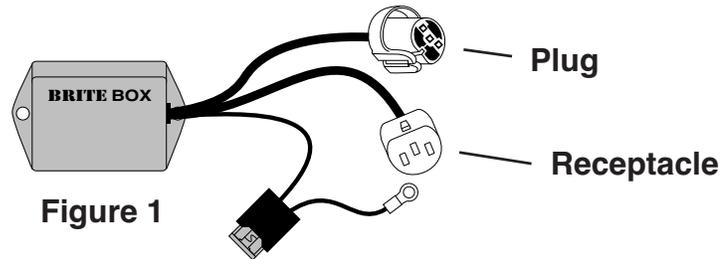

Figure 1
**STEP 3:** Find a location to mount Brite Box. Make sure car's headlight plug can reach the receptacle (see figure 1) of Brite Box, and that Brite Box's plug (see figure 1) can reach headlight bulb. The red wire (attached to fuse holder) of Brite Box must also be able to reach positive (+) battery cable.
**STEP 4:** On the side of the vehicle where you are installing BRITE Box, use a medium screwdriver to gently remove the car's headlight plug from the headlight bulb. **DO NOT** remove bulb from headlamp assembly by turning round lock ring. Use caution so you do not break the retainers on the stock headlight plug. Take the just removed stock plug and fully insert it into Brite Box's receptacle (see figure 1).
**STEP 5:** Plug the headlight plug (see figure 1) from Brite Box into your headlight bulb. Make sure plug is fully seated.
**TECH AND ORDER LINE: (970) 879-4201